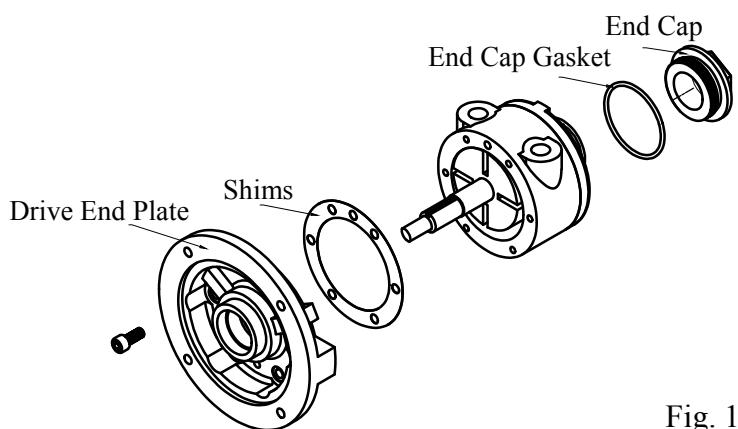

Fig. 1
2. Use the proper sized wrench to carefully remove the end cap from the motor with approximately 25 ft-lb torque. Then remove the end cap gasket. Refer to fig. 1.
4. Remove the drive end plate. Refer to fig. 1.